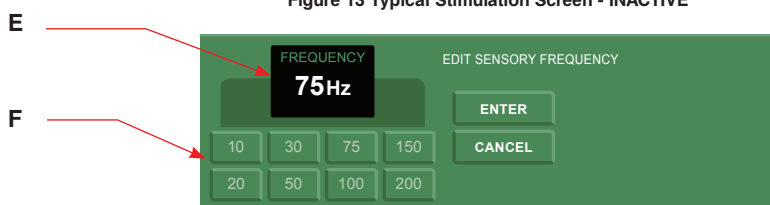

Figure 14 Typical Stimulation Preset Dashboard [FREQUENCY]
2. Adjust the frequency, width, and amplitude setting values by touching the corresponding EDIT button in the dashboard area (see figures 14 and 15). Electrode placement information may also be entered. See *To Choose a Placement Region* section.